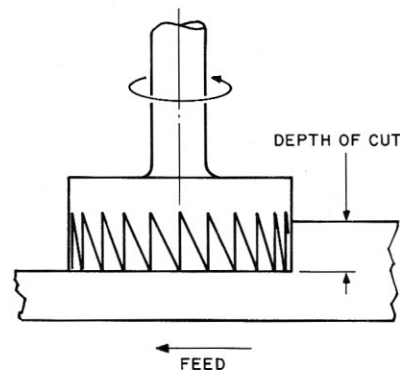

Figure 3. Milling machine terminology.
**Linear Interpolation.** A CNC programming code which controls the position and the cutter axis is at right angles to the finish surface. Most of the cutting is done at the side of the cutter. (Figure 3.)